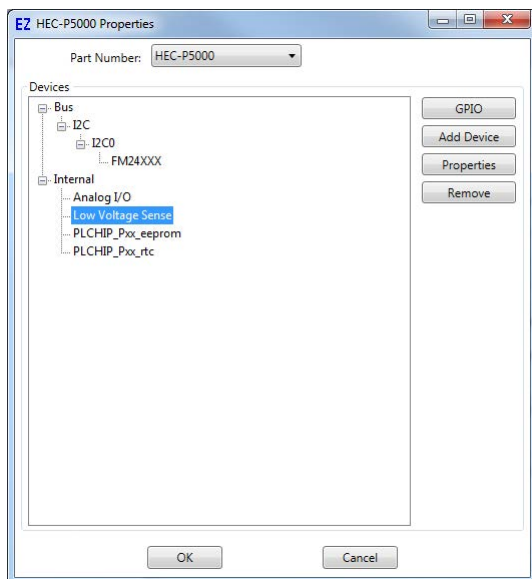

Figure 7-3
The hardware target can only use one of the retentive memory types (EEPROM or FRAM). As such, it must be configured to identify the memory type. From within the Project Settings, inside the targetXXXX's Properties window, select the **Low Voltage Sense** (under internal) and click the **PROPERTIES** button. See Figures 7-3 and 7-4.
2. Click the **PROPERTIES** button to the right side of the window. The target (VB-2000) Properties Window will open. Make sure the proper model (Part Number) is selected in the drop-down menu. Refer to Figure 7-3